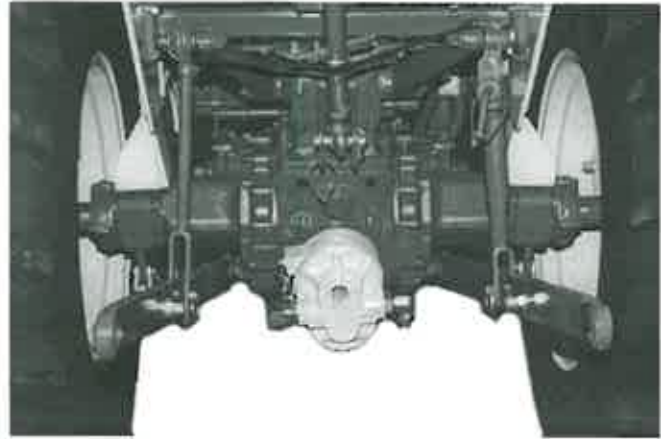

figure 17
1. Slide the pump onto the rear PTO. Secure with a chain. Attach the barb to the pump inlet and the elbow and relief fittings on the pump outlet (figure 17).